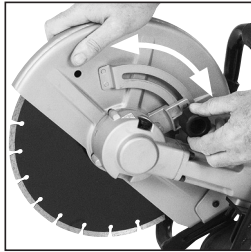

FIG. 6
- Loosen the Wheel Guard locking knob and rotate the Guard to the required position. **(FIG. 6)**